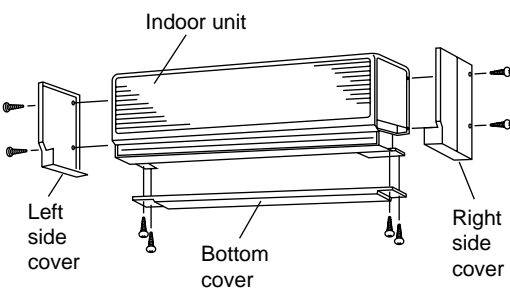

Fig. 3-41
- (a) Remove the 4 screws (2 on each side) and take off both left and right side cover. (Fig. 3-41)